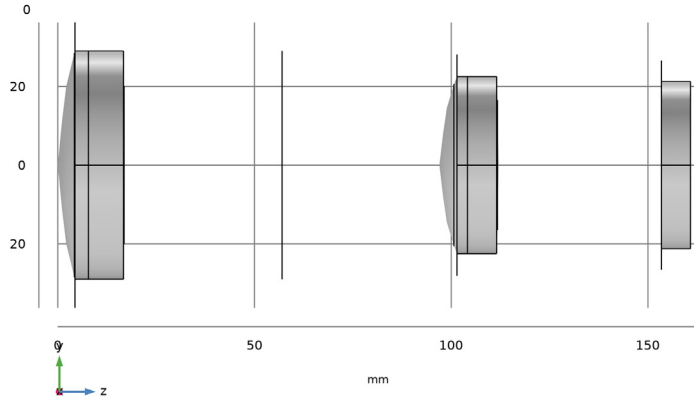
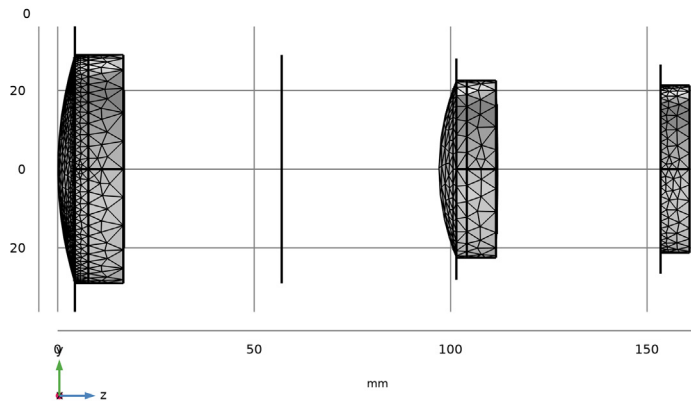

Figure 2: The Petzval lens geometry sequence.
Figure 3: The Petzval lens mesh.
It is important to appreciate that the ray tracing method used by the Geometrical Optics interface is inherently non-sequential, so the same result could be obtained by placing part instances within the geometry in any order. In order to limit the rays to those that reach the focal plane, additional aperture stops and obstructions are added to the geometry. These items can also be placed by using the predefined work planes from each of the lens part instances. The Petzval lens geometry sequence is shown in Figure 2 and the mesh can be seen in Figure 3.
- 9 In the **Graphics** window toolbar, click ▼ next to  **Go to Default View**, then choose **Go to ZY View**. This will orient the view to place the optical axis ( $z$ -axis) horizontal and the  $y$ -axis vertical. Compare the resulting geometry to Figure 2.